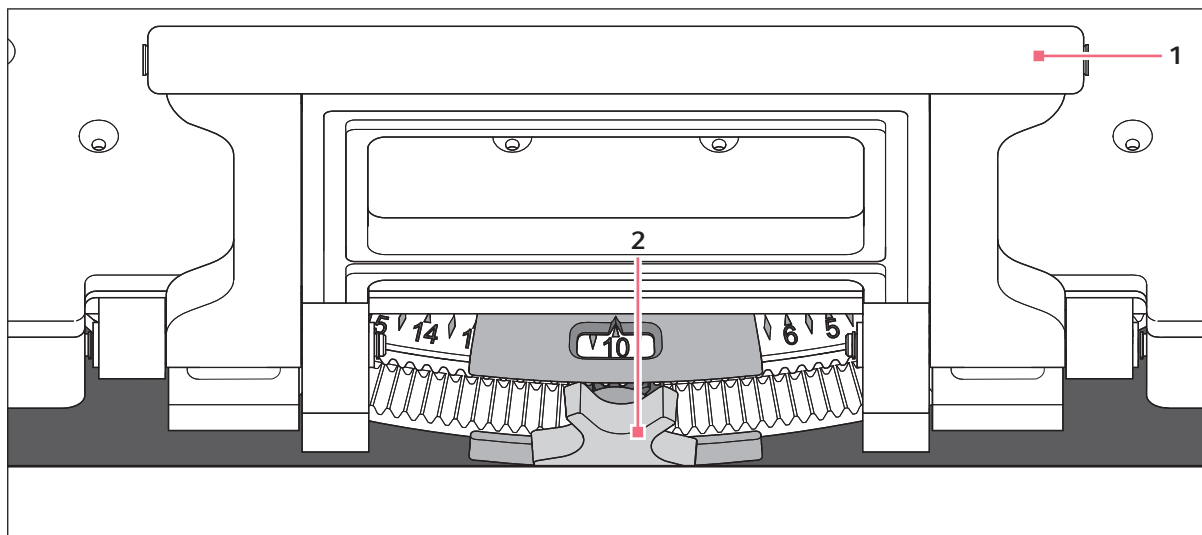

Fig. 8-6: Adjusting counterweight
8. Set counterweight adjustment knob (see Fig. 8-6 on p. 62) to the determined value as shown on the touch screen.